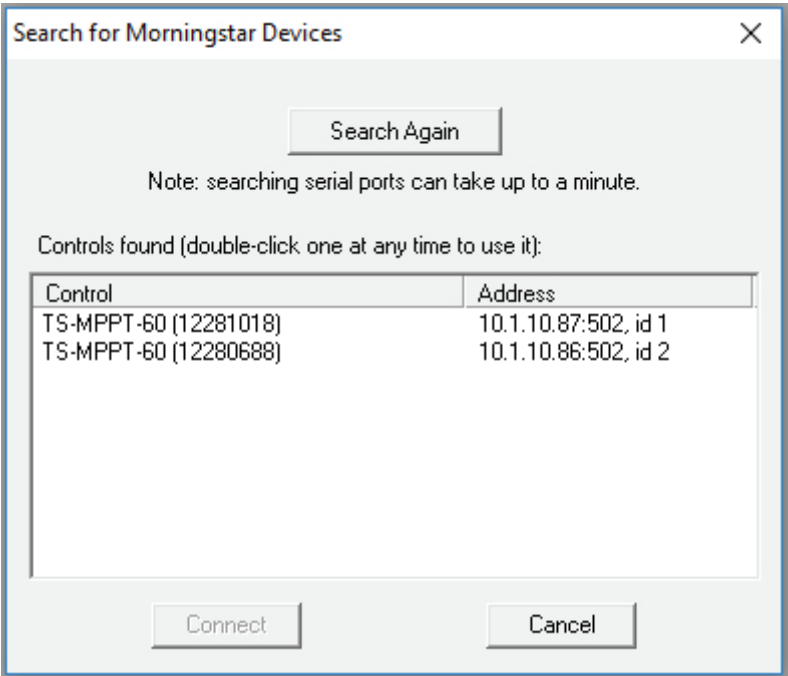

Figure 2a. MSView™ Search for Connected Devices Window
- 5. In figure 2a. above, notice that the controller model with the serial number is displayed on the left with the LAN IP Address and MODBUS™ ID Address displayed on the right.